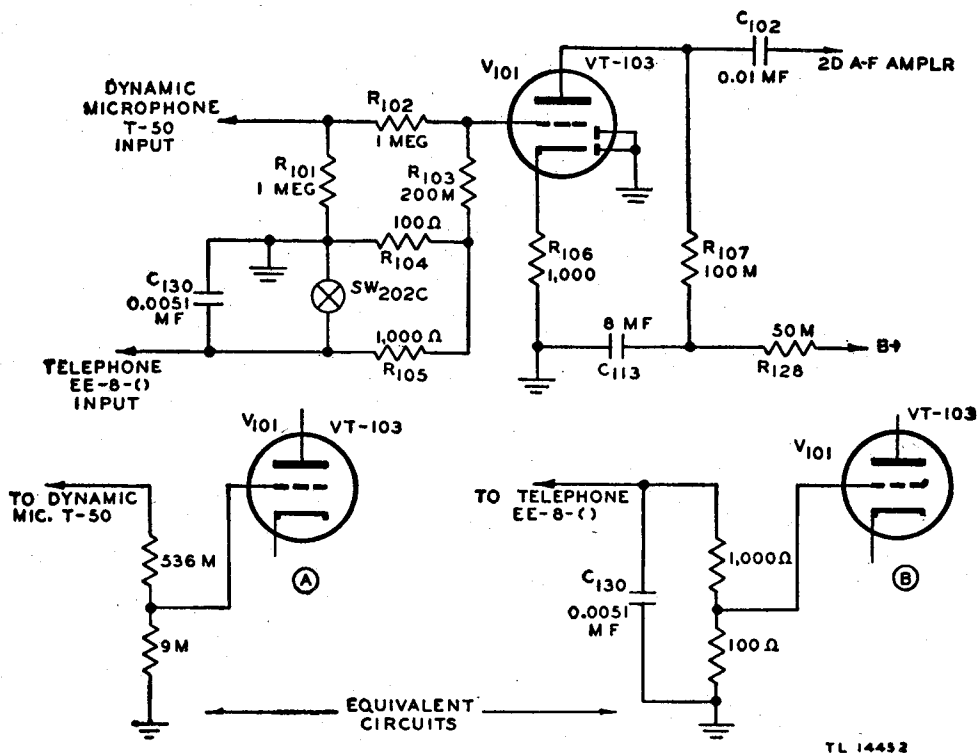

Figure 78. First a-f amplifier stage—functional diagram.
#### 144. First A-F Amplifier (fig. 78)
Tube  $V_{101}$  (Tube JAN-6SQ7 (VT-103)) is connected as a triode in a Class A resistance-coupled amplifier stage. Its purpose is to amplify the output of dynamic Microphone T-50 or remote Telephone EE-8-(). The tube is self-biased as a result of the d-c voltage drop across the cathode-bias resistor  $R_{106}$ . Plate voltage is furnished by the power supply in the speech amplifier, and is applied to the plate of tube  $V_{101}$  through a decoupling resistor  $R_{128}$  and plate-load resistor  $R_{107}$ . Capacitor  $C_{113}$  is the a-f bypass capacitor for decoupling resistor  $R_{128}$ . The filter, consisting of resistor  $R_{128}$  and capacitor  $C_{113}$ , prevents feedback from succeeding stages because of coupling through the common impedance of the power supply. The network in the grid circuit, consisting of resistors  $R_{101}$ ,  $R_{102}$ ,  $R_{103}$ ,  $R_{104}$ , and  $R_{105}$ , is designed to properly match the impedance of either dynamic Microphone T-50 or a telephone line, the far end of which is connected to a field Telephone EE-8-(). Microphone T-50 requires high-impedance input; Telephone EE-8-() requires a low-impedance input. In addition to matching impedance, the network also provides the correct attenuation of the input a-f voltage when using Microphone T-50 or field Telephone EE-8-(). This is a necessary function because the output voltage levels of Microphone T-50 and Telephone EE-8-() differ considerably. Solution of the resistance network, consisting of resistors  $R_{101}$ ,  $R_{102}$ ,  $R_{103}$ ,  $R_{104}$ , and  $R_{105}$ , yields the equivalent circuits shown in figure 78(A) and (B). Figure 78(A) is an equivalent circuit of the 1st a-f amplifier stage when using Microphone T-50; figure 78(B) is an equivalent circuit when using remote Telephone EE-8-(). In either case, the a-f voltage applied to the grid of tube  $V_{101}$  is, in effect, obtained from a tap on a voltage divider. When using Microphone T-50, the microphone output voltage is attenuated